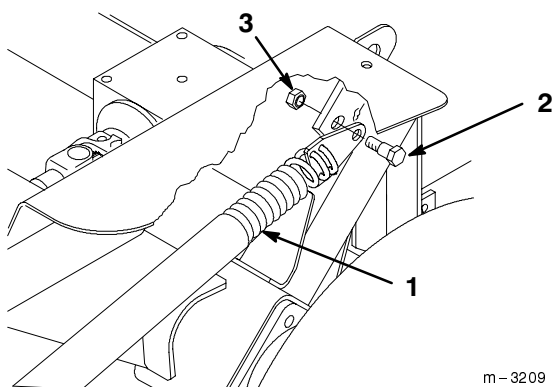

Figure 25
8. Remove 3/8" x 7/8" (23 mm) shoulder bolts and 3/8" locknuts securing spring end plate assemblies to carrier frame (Fig. 25).